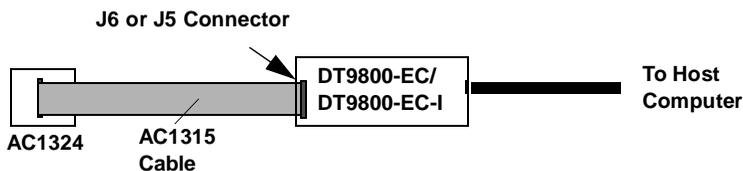

Figure 8: Connecting the AC1324 Screw Terminal Panel to the DT9800-EC or DT9800-EC-I Series Function Module
2. Plug the other end of the AC1315 cable into the 26-pin connector on the AC1324 screw terminal panel, as shown in Figure 8.